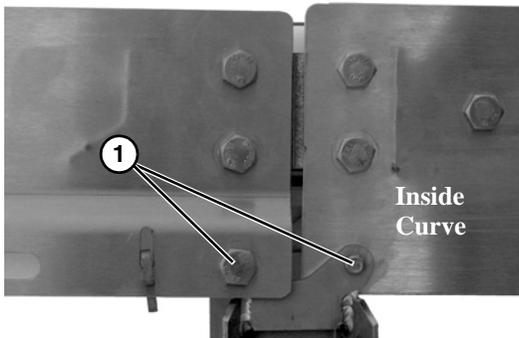

Figure 10
- Tighten bolts on both sides of sections (**Figure 10, item 1**).